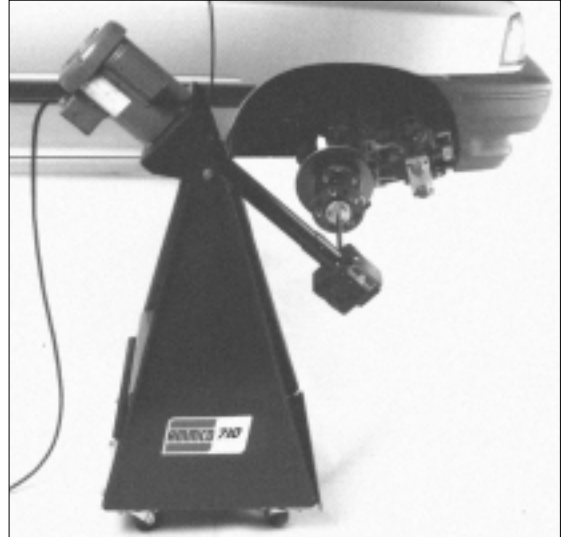

Figure 29
**1.** Select a convenient position for the driving unit floor stand. For example, if the lathe is located on the front side of the axle, it may be cumbersome to locate the floor stand on the same side, Fig. 29.